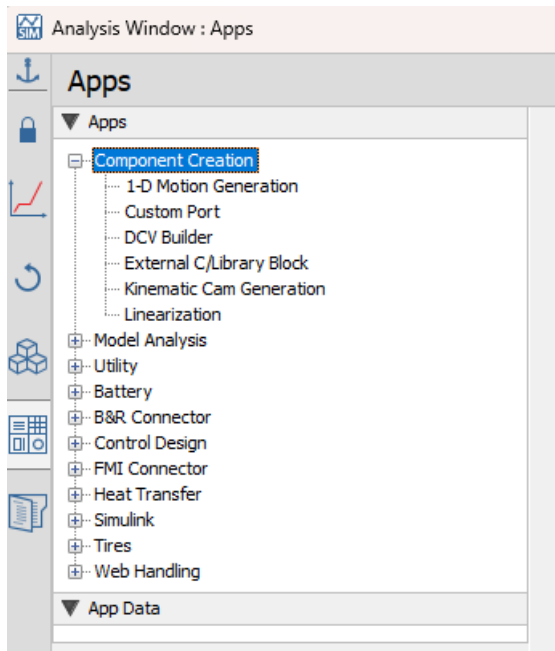

Figure 3.1: Apps for Component Creation
- To select from the available apps, in the main toolbar, click **Show Apps Manager** (). Select from the apps under **Component Creation** (as shown in **Figure 3.1**). Double-click to open an app. The app opens in the Apps Manager.